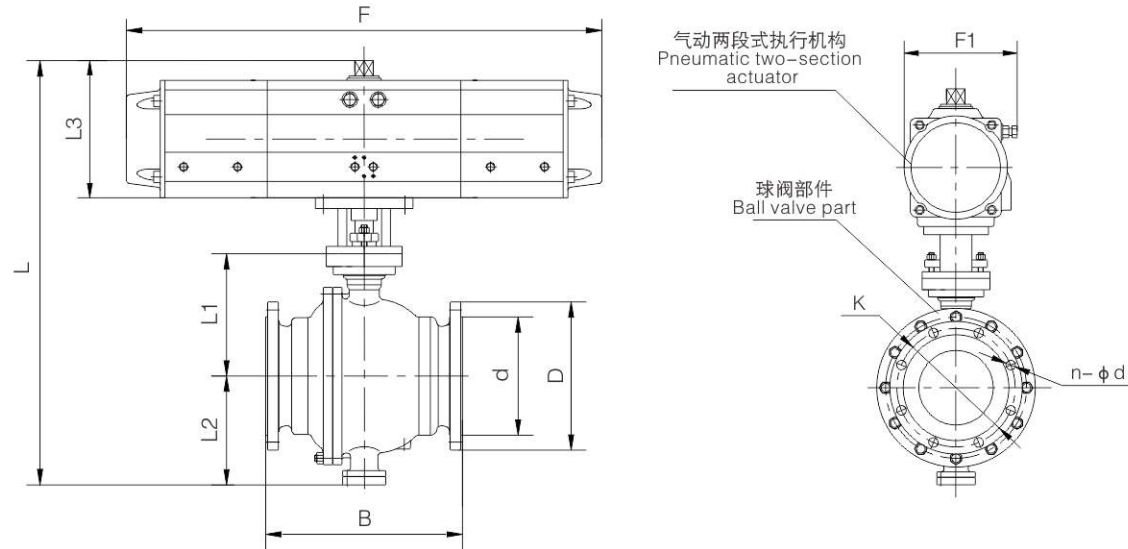

图9 气动两段式执行机构控制球阀外型尺寸图
5.1 气动两段式执行机构控制球阀外型及连接尺寸 (见图9及表4-5)
Outline and connection dimensions of pneumatic two-section actuator control ball valve (see figure 9 and table 4-5)